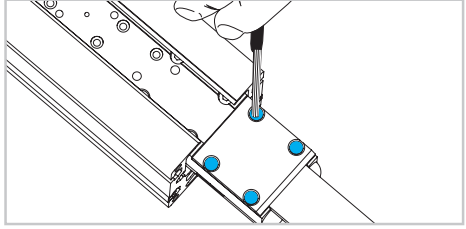

Fig. 13
- 13) Move the inner carriage to the end of the profile, remove the belt-tightening screws and remove the belt (Fig. 13).
- 16) Move the inner carriage to the end of the profile and remove the belt tightening screws (Fig.13).